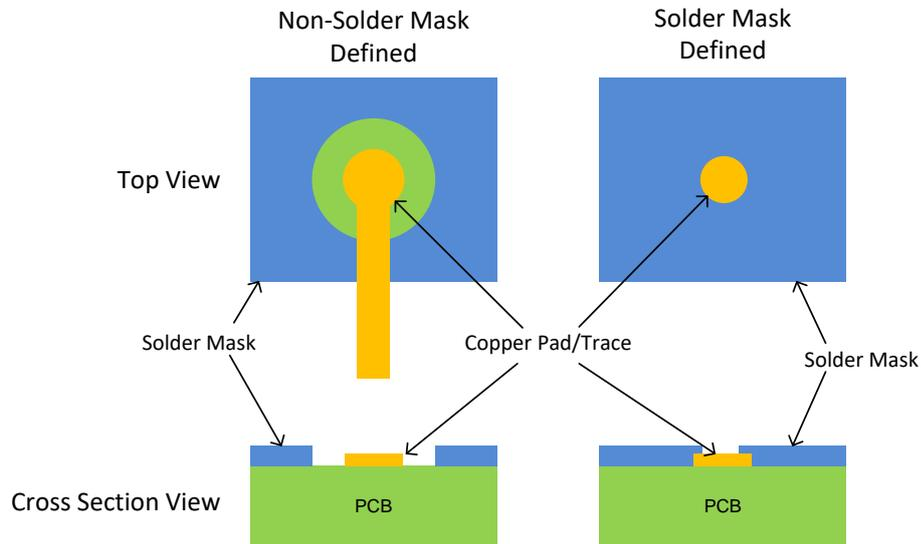

Figure 3: NSMD (left) and SMD (right) Land Patterns
PCB fabrication uses two types of land pad patterns during surface mount assembly (Figure 3).
- The solder mask opening on NSMD pads is larger than the copper pads, allowing the solder to attach to the sides of the copper pad (as seen in Figure 3) improving the mechanical reliability of the solder joints.